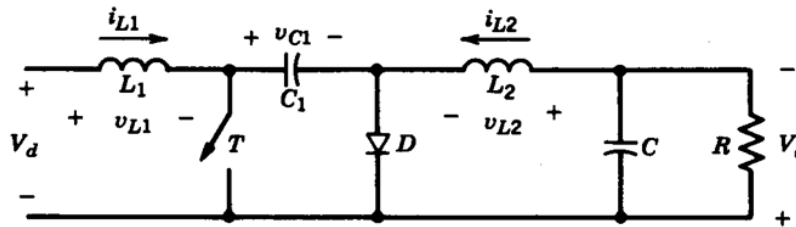

Figure 1
- b) In a Cuk converter shown in Figure 1, operating at 50 kHz, $L_1 = L_2 = 1$ mH and $C_1 = 5$ μ F. The capacitor is sufficiently large to yield an essentially constant output voltage. Here, $V_d = 10$ V and the output V_o is regulated to be constant at 5V. It is supplying 5 W to a load. Assume ideal conditions. Calculate the RMS current flowing through the capacitor C_1 (5)